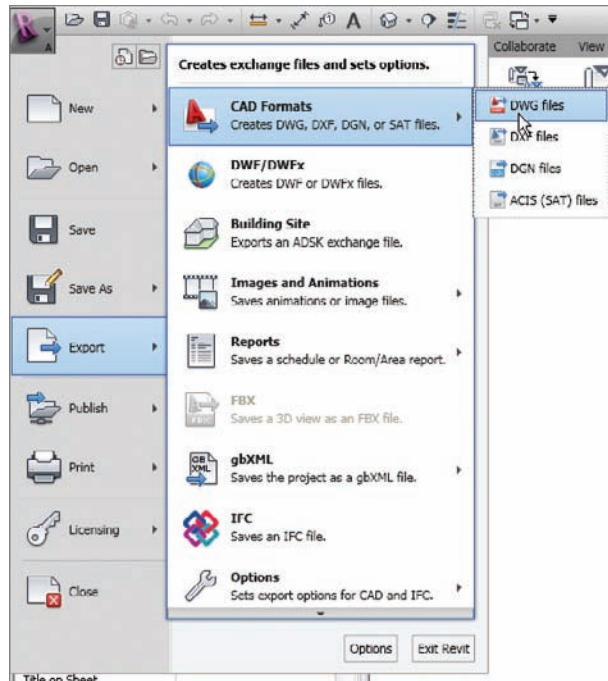

FIGURE 20.25 Exporting the model to CAD
2. Click the Application button, and select Export > CAD Formats > DWG Files, as shown in Figure 20.25.